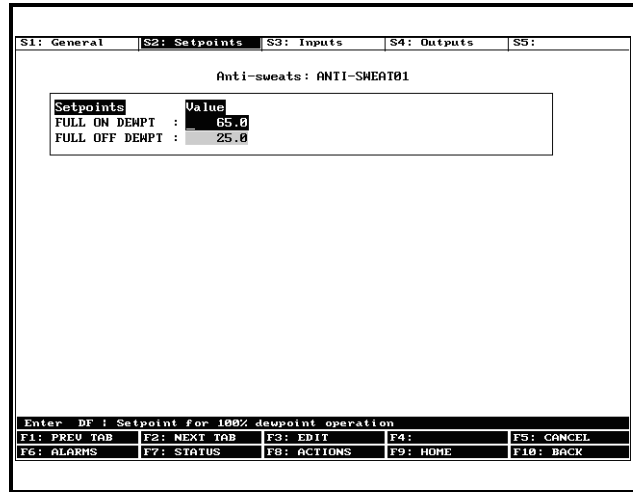

Figure 3-4 - Setpoints Screen
5. Press **F2** to advance to the Setpoints screen. See **Figure 3-4**.